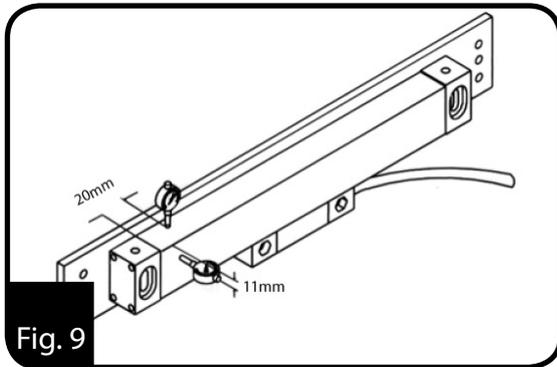

Fig. 9
10. The Horizontal and Vertical alignment measurement are taken at 20mm away from the scale ends as shown in the diagram. (Fig. 9)